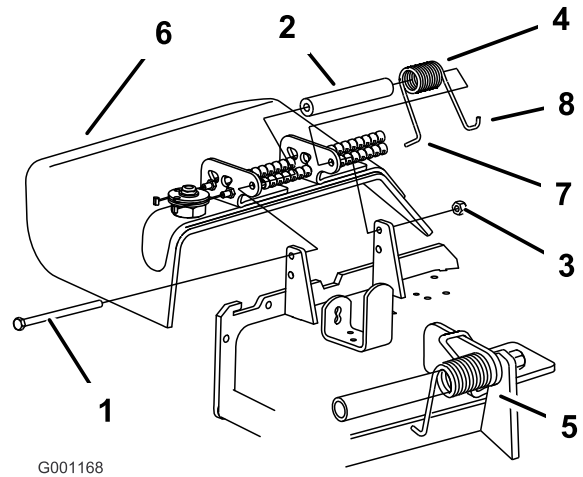

Figure 2
Note: Make sure the end of the spring is installed behind the deck edge before installing the bolt as shown in Figure 2.
2. Install bolt and nut in the lower hole. Place the end of the spring around the grass deflector (Figure 2).